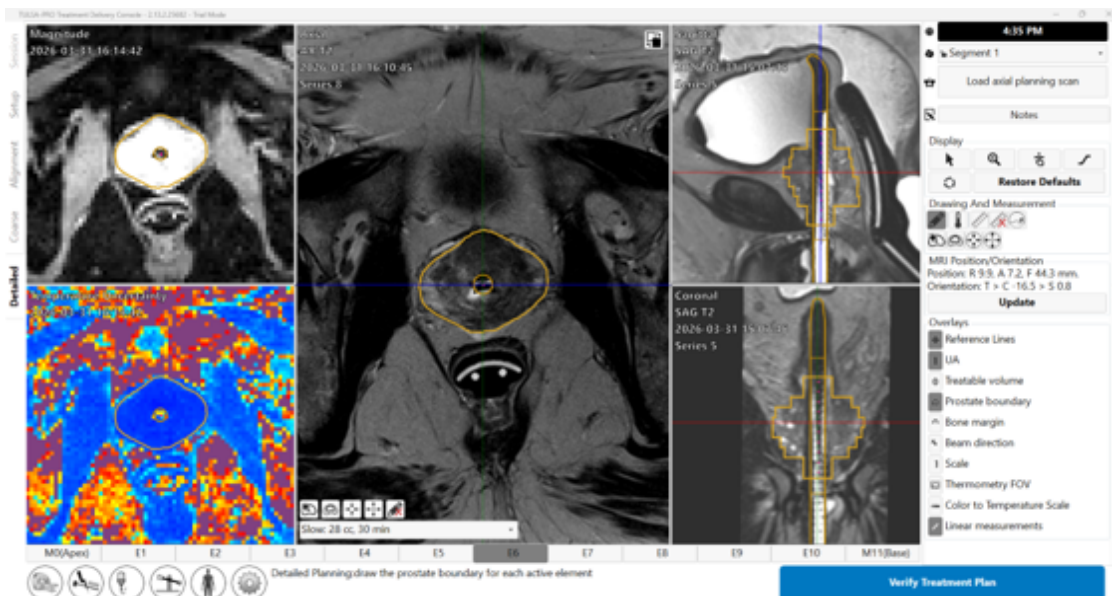

Figure 39: Detailed Planning after drawing boundaries
- Draw or edit the boundary to outline the tissue to be ablated on each slice based on the corresponding AX T2 and THERM magnitude images (Figure 39). Tools to customize the boundary are described in the following *mpMRI Vision*, *Treatment Arc*, *Volume Reduction*, and *Contouring Assistant*. You can select individual slices by clicking on the numbered tab at the bottom of the